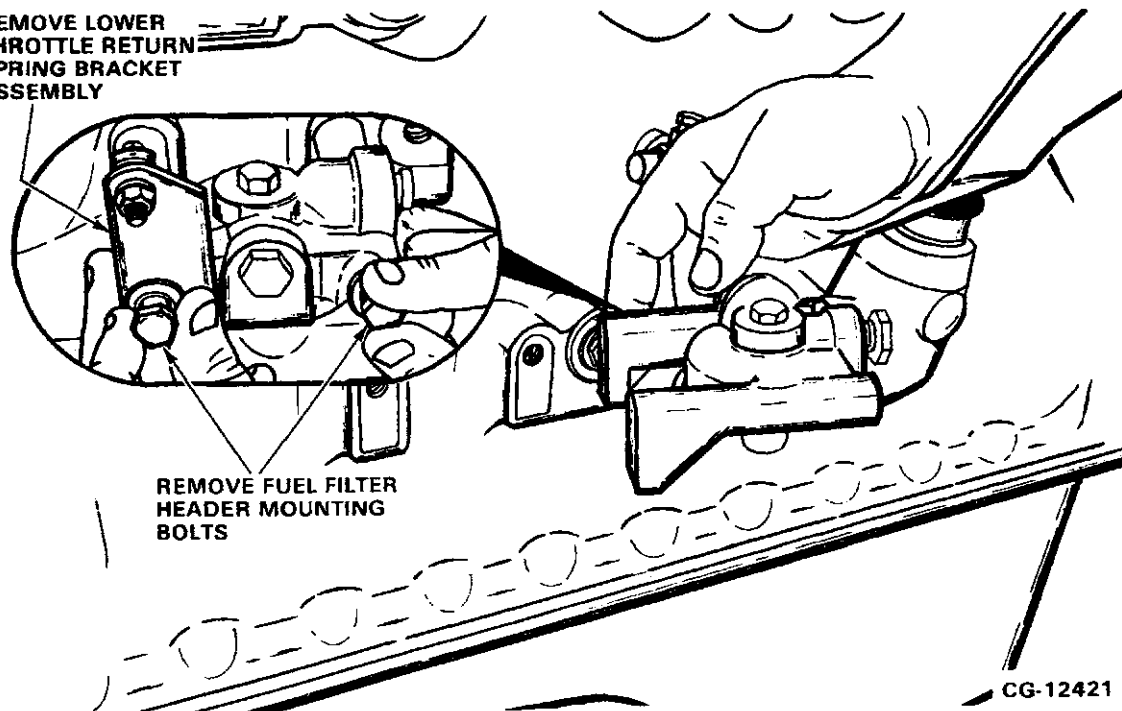

Figure 11.30. Remove Fuel Filter Header and Lower Throttle Return Spring Bracket Assembly
2. Loosen and remove the two mounting bolts which secure the fuel filter header to the crankcase, then remove the header. Refer to Figure 11.30.